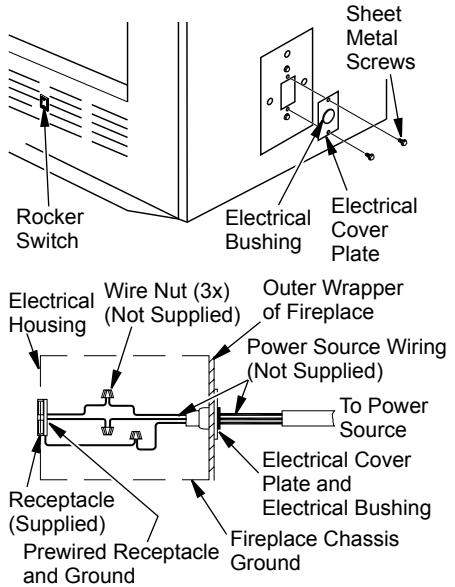

Figure 6 - Fan Switch-Electrical Bushing
Fan or blower kit is optional with this fireplace (circulating models only). Use of blowers or fans other than those manufactured by DESA Heating, LLC voids warranty. Fan is operated by pressing rocker switch (see Figure 6) in lower right hand corner of fireplace face. Blower is operated by turning control knob (not shown).
Fan/blower kit electrical connections are made through the electrical cover plate on side of fireplace as shown in Figure 6.
1. Remove electrical cover plate with bushing from fireplace by removing 2 sheet metal screws as shown in Figure 6.
3. Slide all wiring connections in electrical housing as shown in Figure 6.